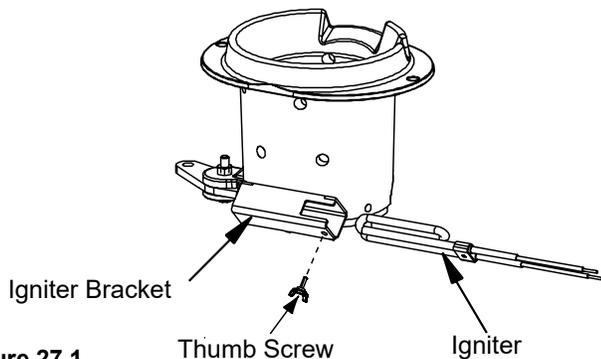

Figure 27.1
2. The wire leads to the igniter are connected to the wire harness with 1/4 inch (6mm) male / female spade connectors. These wires will pull forward approximately 4 to 5 inches (102mm to 127mm) through the grommet at the back of the ash drawer chamber. Disconnect the spade connections and remove the igniter from the chamber. Loosen the thumb screw and slide igniter out (**Figure 27.1**).